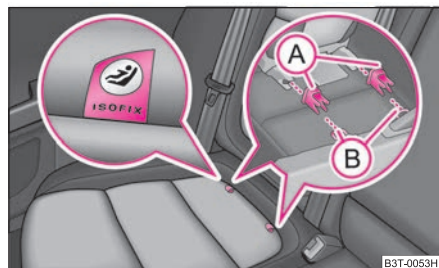

Fig. 172 Locking eyes (ISOFIX system)
- Insert the mounting funnels (A) onto the locking eyes (B) between the backrest and seat cushion ⇒ fig. 172.